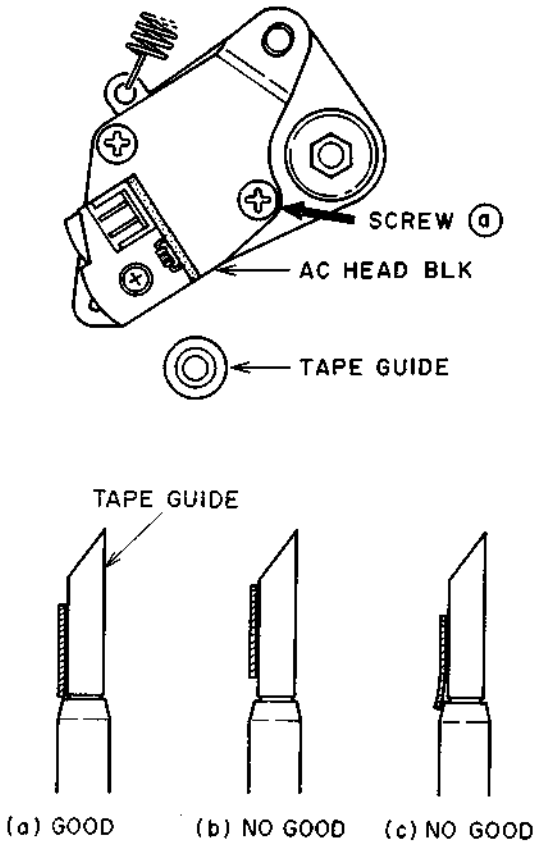

Fig. 6-8
- 3) Press the REV button (REVIEW mode) confirm the curl at the tape down edge is not existed at the TAPE GUIDE as shown in Fig. 6-8.
(Fig. 6-8 (c) is not acceptable, but Fig. 6-8 (b) is acceptable.)